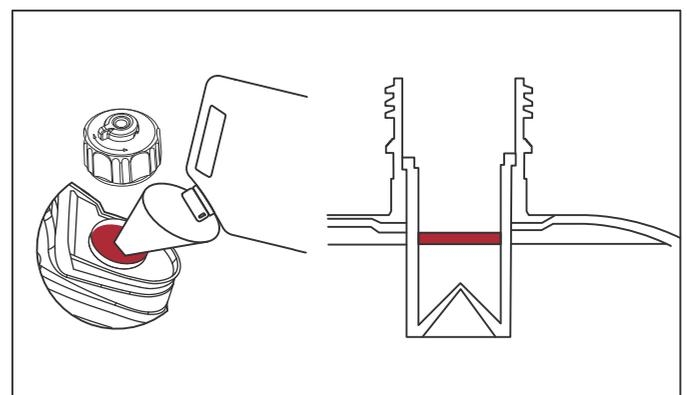

Fig.8
6. Slowly add gasoline into the fuel tank. Be very careful not to overfill the tank. The gasoline level should NOT be higher than the red ring (see **Fig.8**).